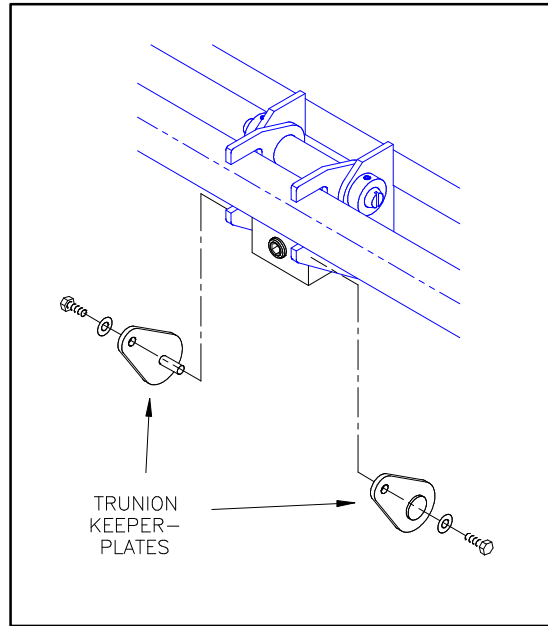

FIGURE 2-4: TRUNNION REMOVAL
- f. Refer to **Figure 2-4**. Remove screws retaining keeper plates on both sides of lifting frame, and remove keeper plates. This will allow the trunnion to rotate freely around the hydraulic cylinder piston shaft.